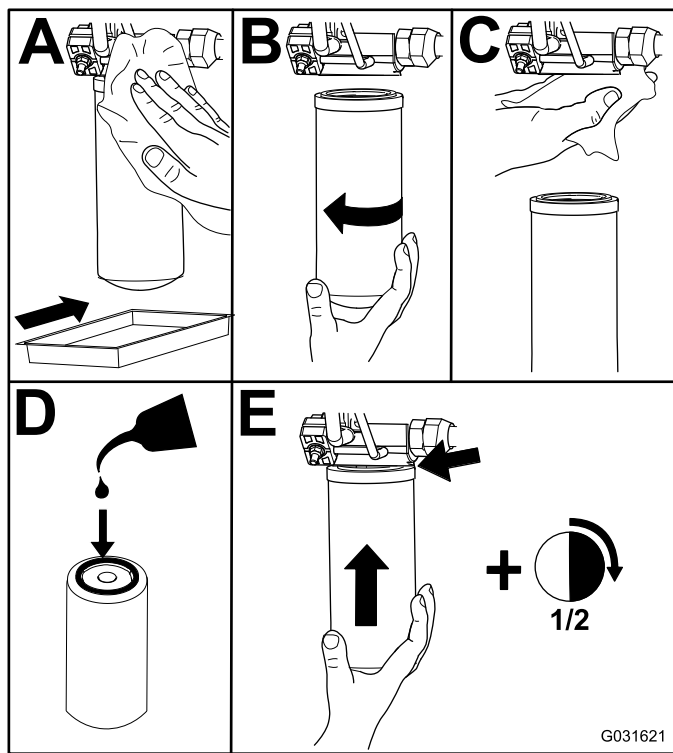

Figure 118
2. Replace the hydraulic filters (Figure 118).